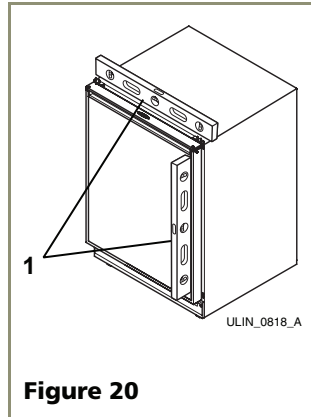

Figure 20
1. Use a level to check the levelness of the unit from front to back and from side to side. Level should be placed along top edge and side edge as shown (see **Figure 20**).